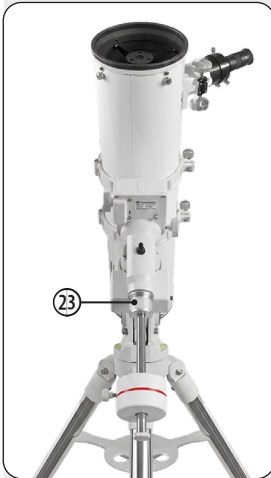

Fig. 25: Equatorial home position (front view)
2. If not already done, orient the entire telescope assembly so that the tripod leg beneath the counterweight shaft points (approximately) towards north. Then open the DEC clamp (23) so that the optical tube can be swung. Rotate the tube until it points towards north. Close the clamps again. (Fig. 25)
3. If not already done, determine the latitude of your observation site. Use the latitude adjustment screws (16) to adjust the telescope mount so that the pointer indicates the correct latitude of your observation site on the latitude scale (16 a).